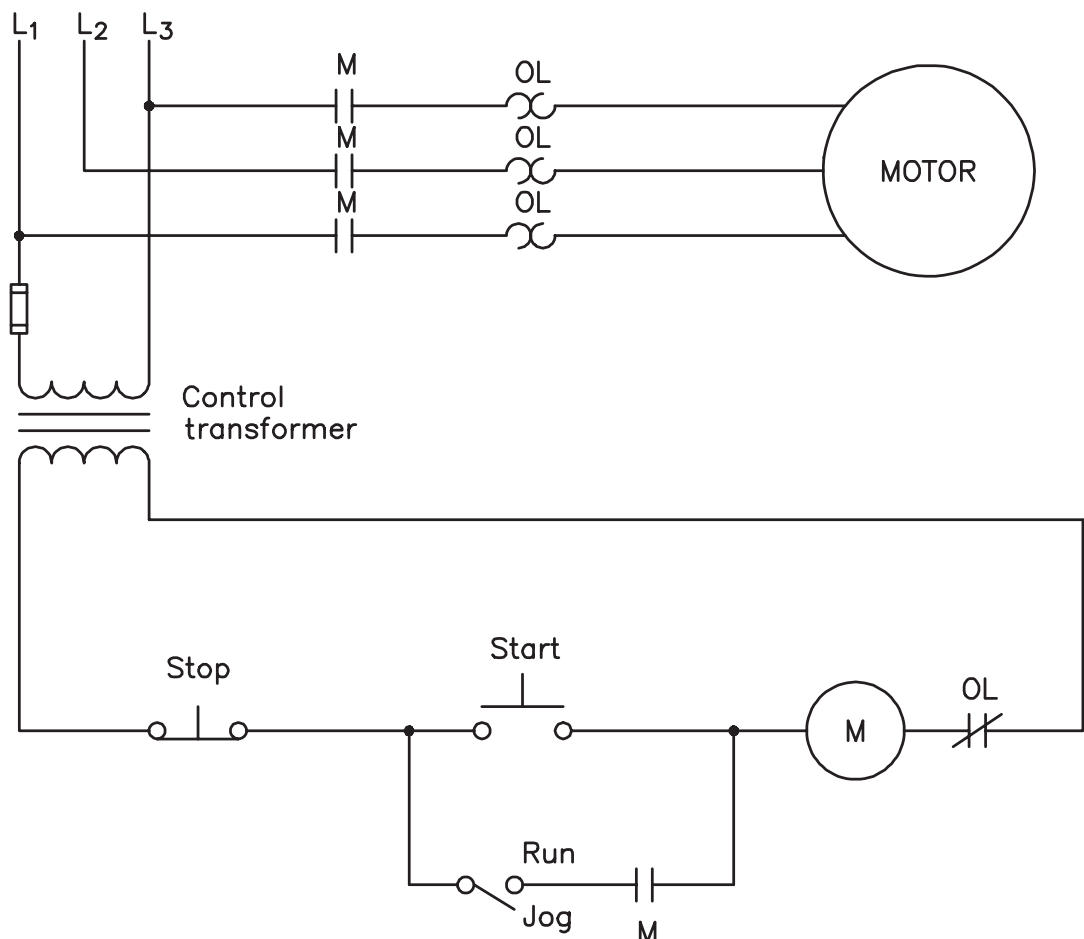

Figure 30-2 Run-jog controls using a single-pole switch.
Like most control circuits, jog circuits can be connected in different ways. One method is shown in Figure 30-2. In this circuit a simple single-pole switch is inserted in series with the normally open M auxiliary contact connected in parallel with the start button. When the switch is open, it is in the *jog* position and prevents M holding contact from providing a complete path to M coil. When the start button is pushed, M coil will energize and connect the motor to the power line. When the start button is released, M coil will de-energize and disconnect the motor from the line. If the switch is closed, it is in the *run* position and permits the holding contact to complete a circuit around the start button.
In this experiment four different jog circuits will be connected in the laboratory. Three of these circuits are illustrated in Figures 30-2, 30-3, and 30-4. The fourth circuit will be designed by the student in accord with given circuit parameters.
1. Refer to the schematic diagram in Figure 30-2. Place wire numbers beside the components following the procedure discussed in previous experiments.
3. Connect the circuit by following the wire numbers in the schematic diagram in Figure 30-2.